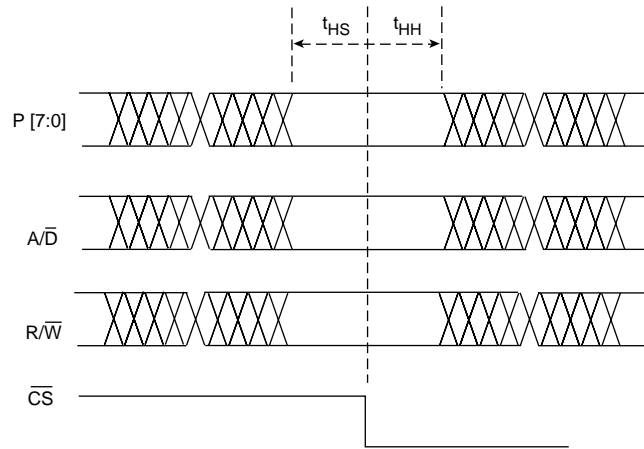

Fig. 8a HOSTIF Parallel Port Input Setup & Hold Times
- B) Signals are "strobed" into/out of the parallel port on the falling edge of the  $\overline{CS}$  signal. Setup and hold times, as defined in the AC timing tables, are relative to this edge and must be met (see Figure 8a)